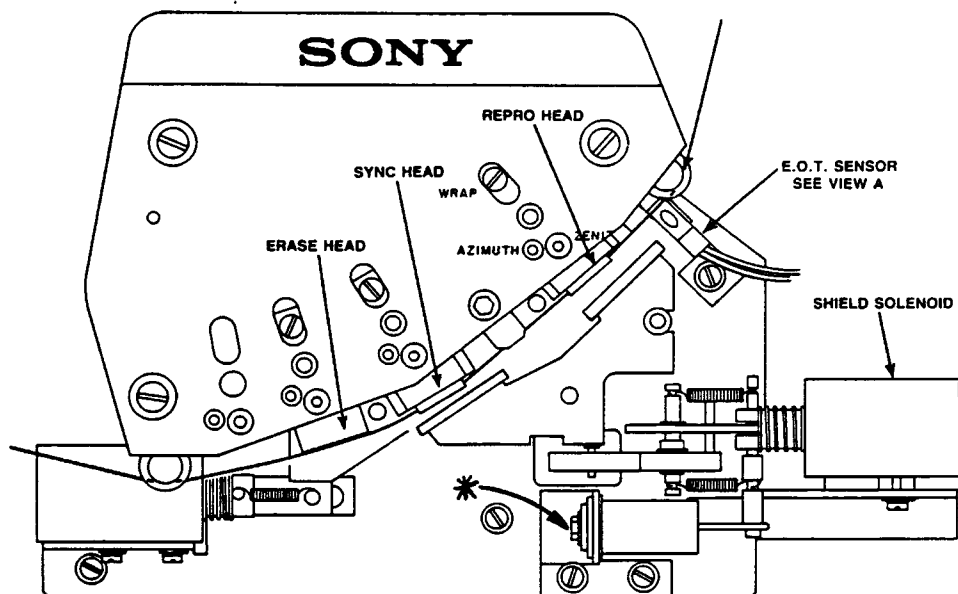

Figure 6-7. Shield Dashpot Adjustment
There shall not be a gap exceeding 0.0005-inch between either the gauge and the reel turntable or the gauge and the reel motor mounting plate. Refer to Figure 6-7.
- STEP 3** Place the reel motor height gauge on the reel motor mounting plate as shown in Figure 6-7. Ensure that the reel motor turntable height meets the specification criteria.
- STEP 4** If adjustment is necessary, loosen the set screws (2) with the 2mm hex driver. Adjust the turntable height as required.
STEP 5 Adjust the shield assembly dashpot for smooth operation of the shield assembly with the dashpot adjustment screw. Refer to Figure 6-7.